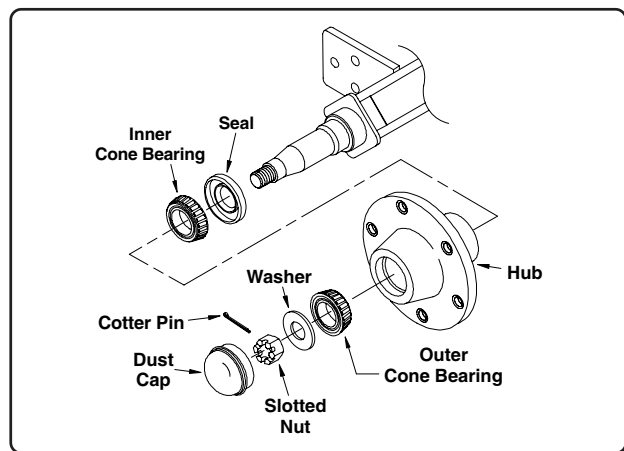

Fig. 8
2. Remove the dust cover by prying around the edges, (See Fig. 8) then remove the cotter pin, slotted nut and flat washer from the end of the axle shaft.